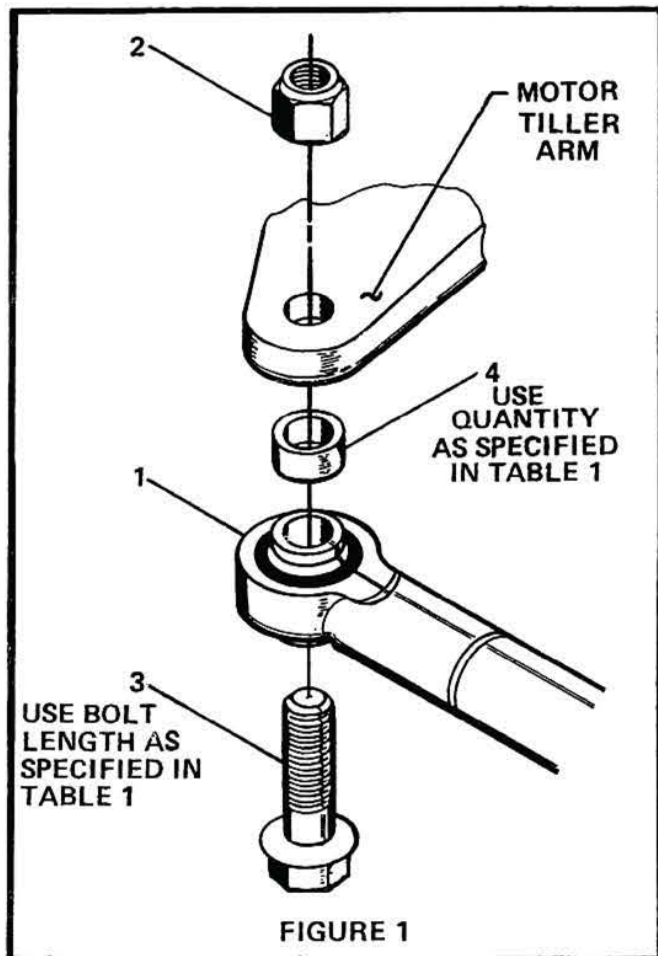

FIGURE 1
1. Thread the Rod End, Item 1, (Figure 1), fully onto the threaded end of the steering cable telescopic output ram, or link arm, whichever is being used. Then back off approximately 3/4 turn to allow for swivel action.
2. Install Bolt and attaching hardware per Figure 1 and Table 1. Torque to 200 inch/pounds. DO NOT EXCEED 250 INCH/POUNDS.